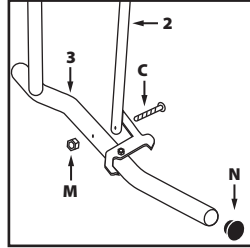

Fig. 3
- Select the components labelled **2** and **3**. Attach **2** to **3** using the fixings **C** and **M** (**Fig. 3**).